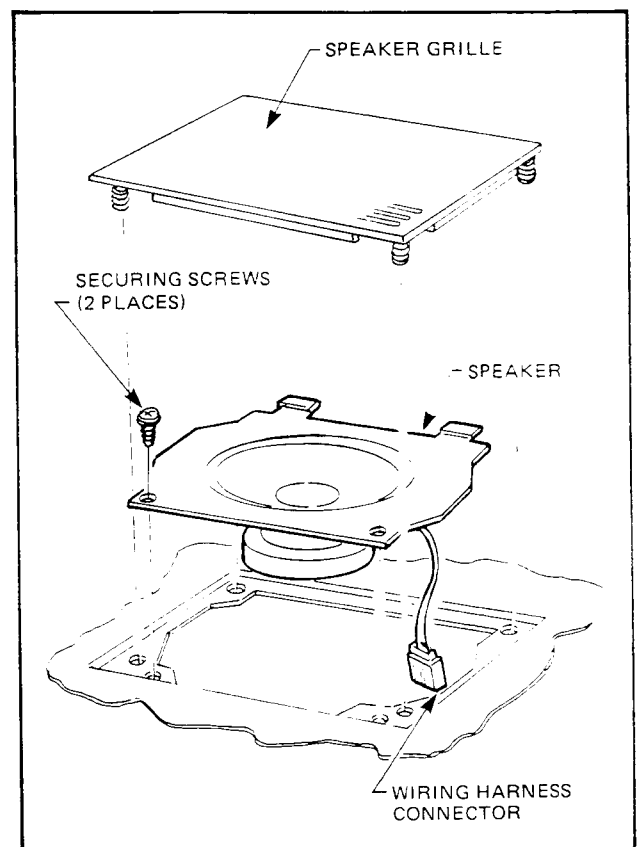

Figure 12D-4
3. Lift up speaker to disconnect wiring harness connector. Remove speaker, refer Fig. 12D-4.